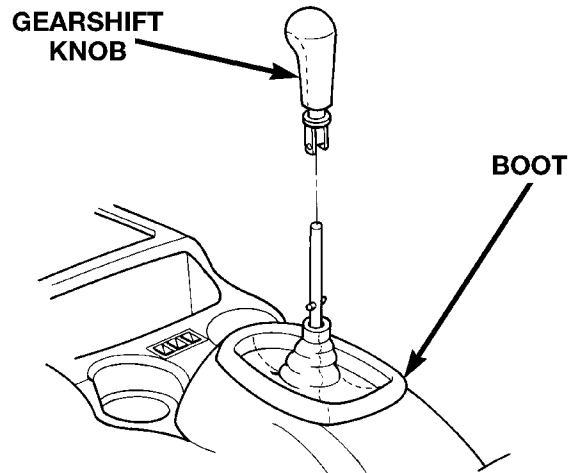

Fig. 8 Gearshift Knob
- (1) Pull shifter boot down and away from shifter roll pin.
- (2) Pry legs of shift knob away from shift lever roll pin using a flat blade pry tool.
- (3) Remove knob from shifter handle (Fig. 8).